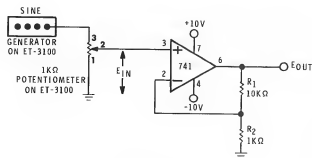

Figure 4-85
- Turn off the ET-3100 Experimenter and construct the circuit shown in Figure 4-85. Set the generator frequency to 1000 Hz.